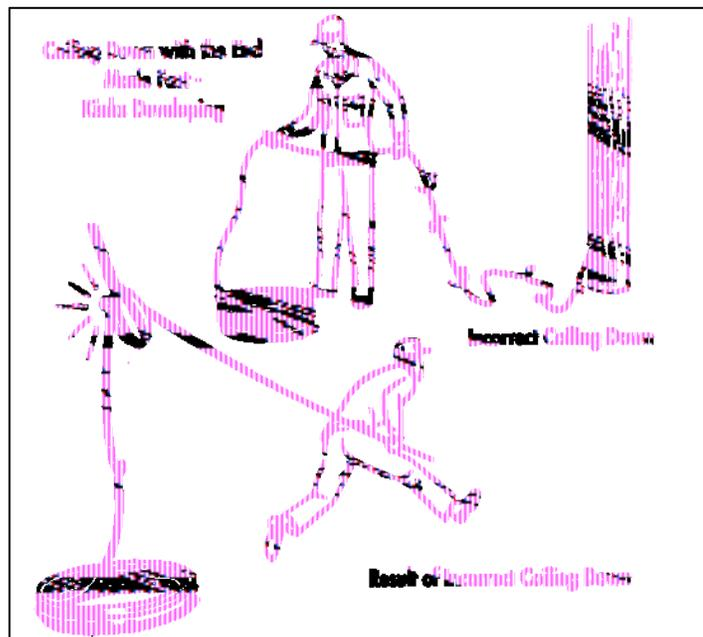

Figure 5.5-1 - Mistakes in Coiling Down
- g. Similarly, when coiling down a rope which is led through a block, the coil should not be made too near the block; otherwise a slight check may cause a kink to develop in the rope as it is running through and thus choke the luff (Fig 5.5-1).